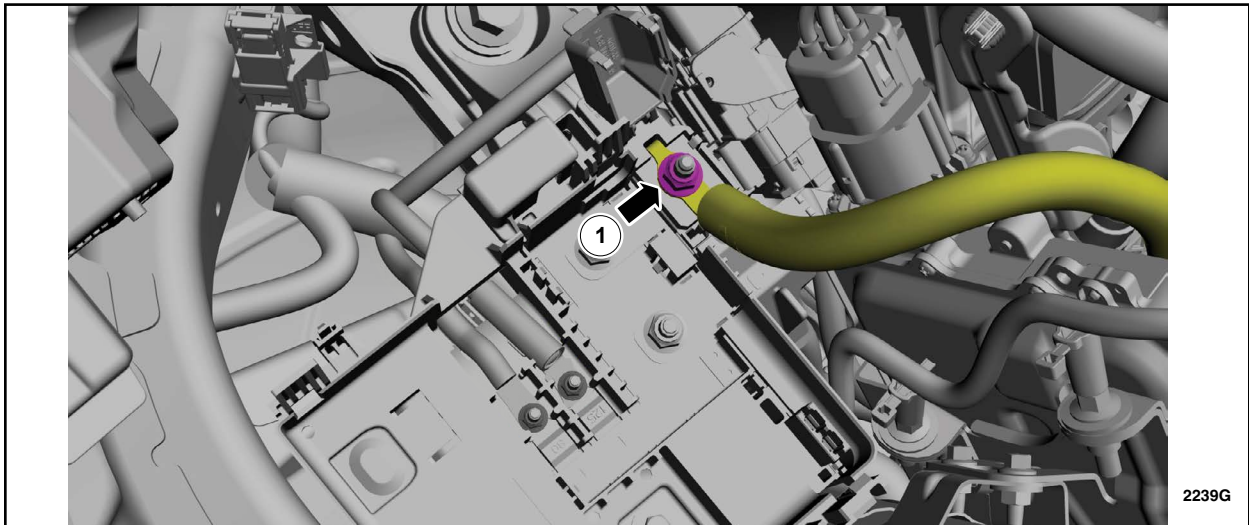

FIGURE 7
11. Remove the nut. See Figure 7.